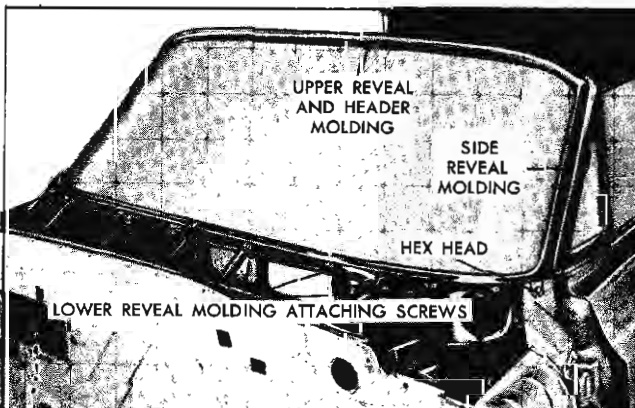

Fig. 2-3 Windshield Reveal Moldings
NOTE: The outermost attaching screw on each side of the lower molding is hidden by the front fender and may be removed by opening the front door. The outer molding clips are slotted allowing removal of the molding without completely removing the attaching screw (Fig. 2-3).
5. Remove lower reveal molding attaching screws except end screws, open door loosen both end attaching screws, lift up molding disengaging slotted clip from screws and remove molding (Fig. 2-3).